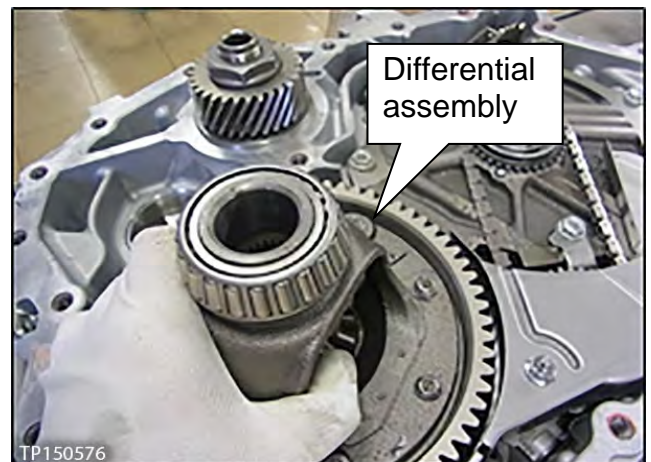

Figure 7C
6. Carefully remove the differential assembly (Figure 7C).